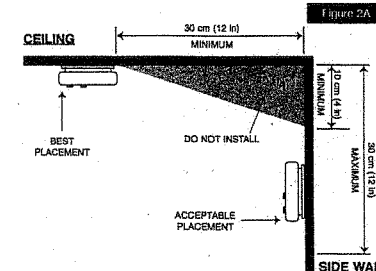

Figure 2A
- When mounting an alarm on the ceiling, locate it at a minimum of 30cm from the side wall (Figure 2A).
- When mounting the alarm on the wall, use an interior wall with the top edge of the alarm at a minimum of 10cm and a maximum of 30cm below the ceiling (Figure 2A).
Install the smoke alarm on an inside wall with the top edge of the alarm at a minimum of 10cm and a maximum of 30cm below the ceiling (Figure 2A).
- Do not install in areas where the relative humidity (RH) is greater than 93%.
- Avoid dead air spaces such as the peak of an "A" frame ceiling. "Dead Air" at the top may prevent smoke from reaching the alarm in time to provide early warning. Refer to Figure 2A and 2B.
- After selecting the proper smoke alarm location as described in on Page 2, attach the mounting bracket to the ceiling as shown in Figure 2A. For wall mounting see Figure 3A. Place the mounting plate on the wall; be sure the "A" line is horizontal (parallel to the floor). Use the screws and cavity fixings provided to secure the mounting bracket (use 3/16" drill bit for cavity fixings).